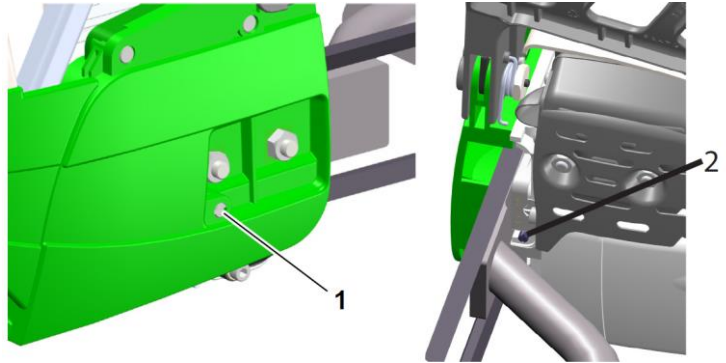

Fig. 6: V-belt tightening screw
- > Tighten the V-belt by turning the V-belt tightening screw (2) clockwise (see Fig. 6).